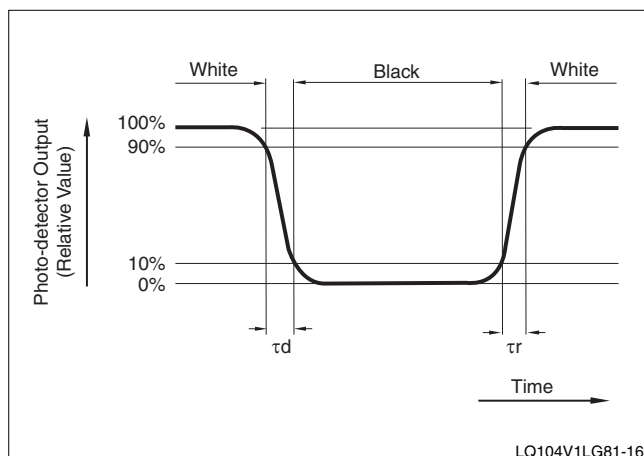
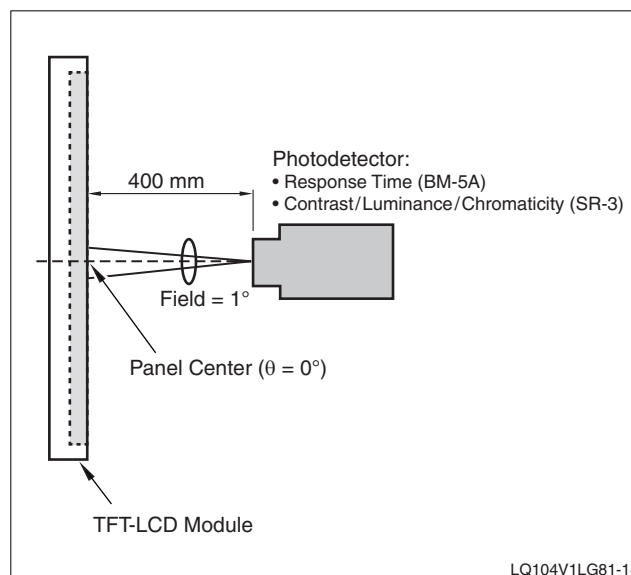

Figure 3. Response Time
Figure 6. Contrast, Luminance, Response Time, and Chromaticity Measurement Method
- Response Time is measured by the change interval in an optical receiver when the test panel's signal is transitioned from black to white to black. See Figure 6 for the measurement setup and Figure 3 for the output waveshape.